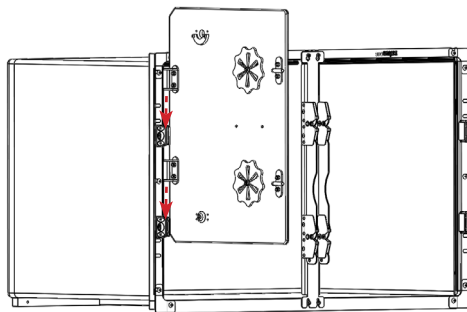

FIGURE 2.20 - Door Installation
**STEP 7:** Install the O2 Door by holding the door hinge pins/bushings above the cage hinges at a 90° angle to the face of the cage. Slide the hinge pins/bushings down into the hinges. See FIGURE 2.20